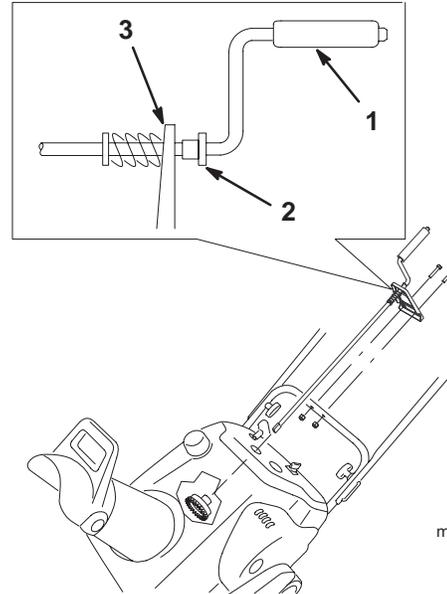

Figure 12
1. Insert the flattened end of the chute crank through the hole in the shroud while aligning the mounting bracket with the holes in the lower handle (Fig. 12).
2. Slowly rotate the crank until the flattened end fits into the hidden gear opening and the chute ring turns with the crank (Fig. 12).
3. Ensure that the plastic bushing is fully inserted into the hole in the mounting bracket. If not, slide it along the crank and into the hole (Fig. 12).
4. Secure the mounting bracket to the handle with 2 bolts and locknuts (Fig. 12).